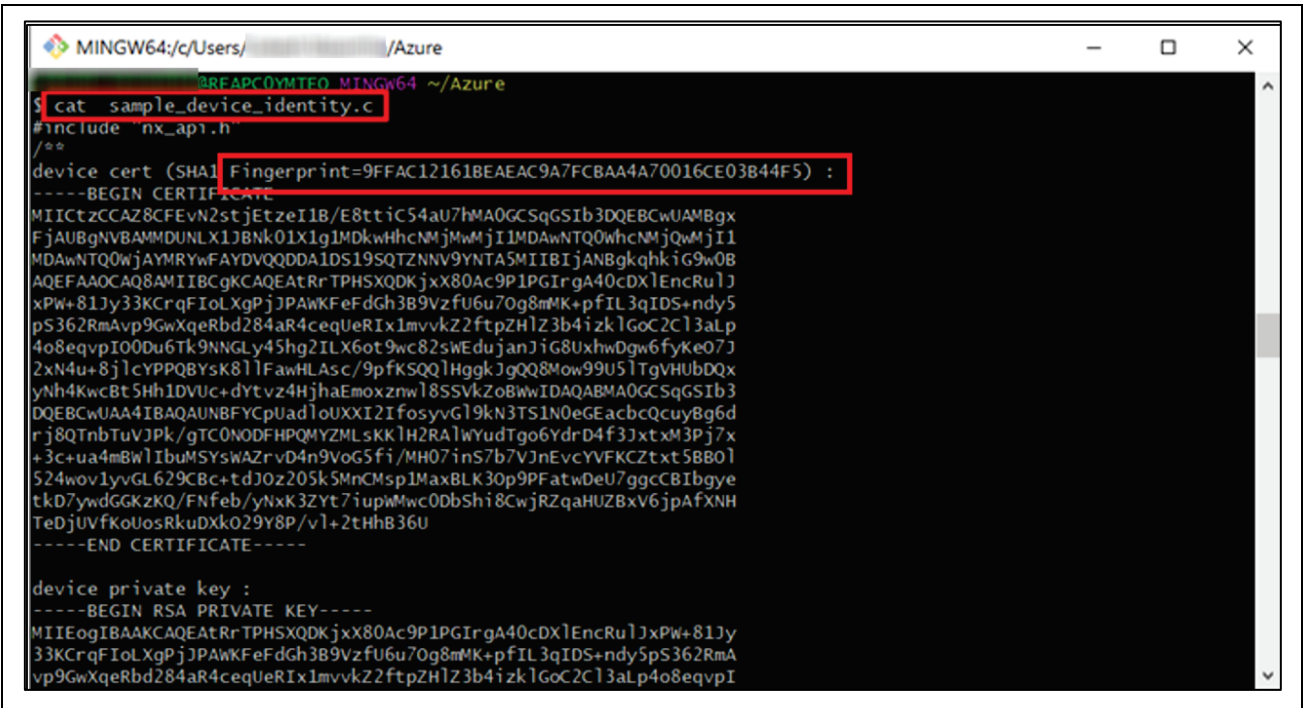
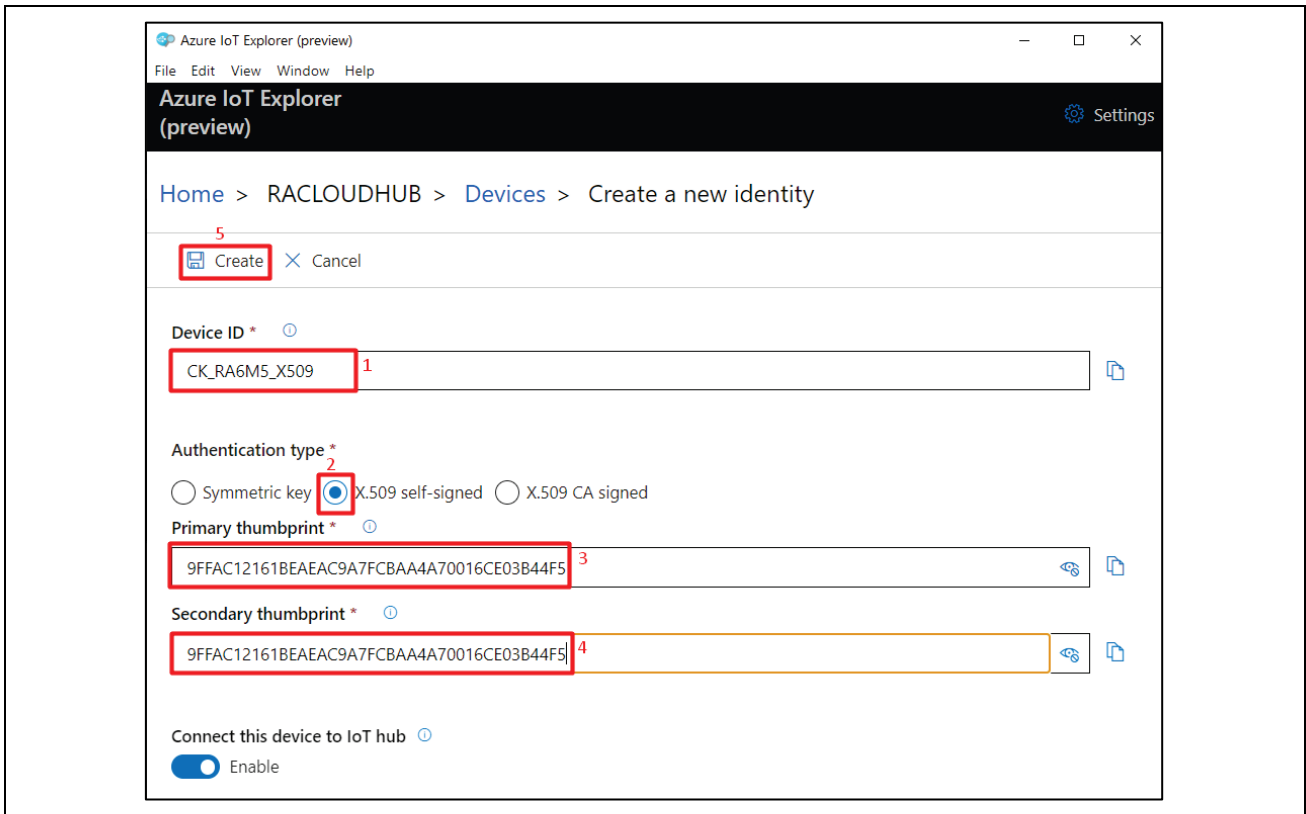

Figure 23. Check the Content of `sample_device_identity.c`
Figure 31. Naming, Authentication type and Thumbprints
2. In this stage, you have to give Device ID, Authentication type, Primary thumbprint, Secondary thumbprint then click on Create. Use fingerprint generated in Figure 23 in section 3.5.Certificate Creation Process, for the primary and secondary thumbprints. Follow steps 1-5 in Figure 31, to create the device.